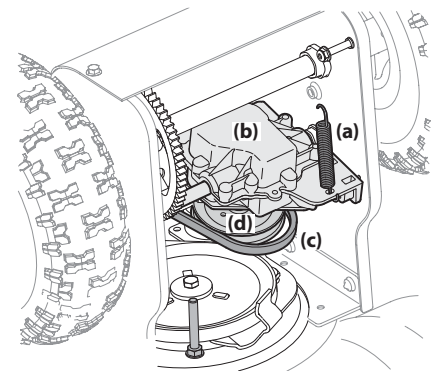

Figure 4-18
- Remove the spring (a) that connects the transmission to a bolt on the engine frame. See Figure 4-18.
- Tilt the transmission (b) forward and position the drive belt (c) onto the transmission pulley (d). See Figure 4-18.
- Reconnect the spring (a) to the bolt on the engine frame and secure the transmission. Reinstall the flange lock nut. See Figure 4-18.